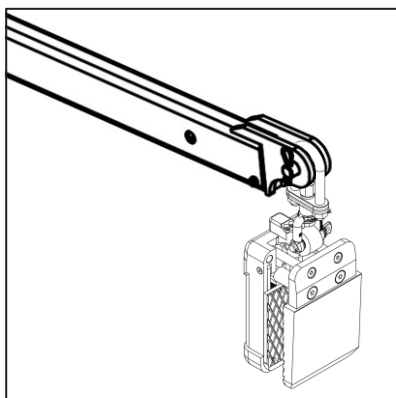

Figure 1.1
Step 1: Hook the Little Giant Lifter Automatic to a forklift boom or to a crane hook (Figure 1.1).